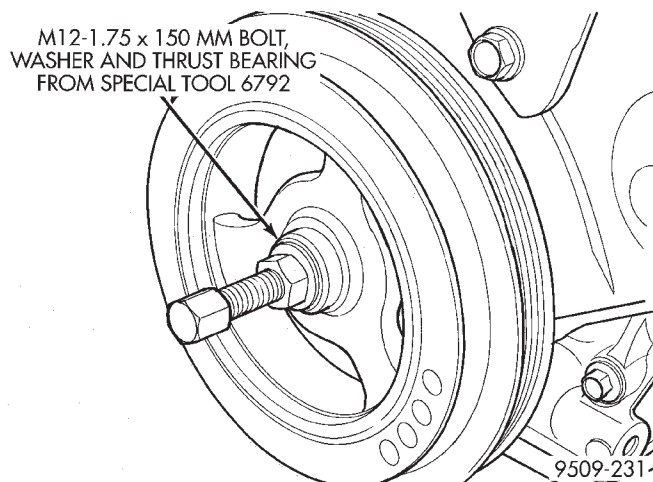

Fig. 100 Crankshaft Damper—Installation
(1) Install crankshaft damper using M12-1.75 x 150 mm bolt, washer, thrust bearing and nut from Special Tool 6792. Install crankshaft damper bolt and tighten to 142 N·m (105 ft. lbs.) (Fig. 100).
(2) Install accessory drive belts. Refer to Group 7, Cooling System Accessory Drive section for procedure.
(3) Raise vehicle on hoist and install right inner splash shield.